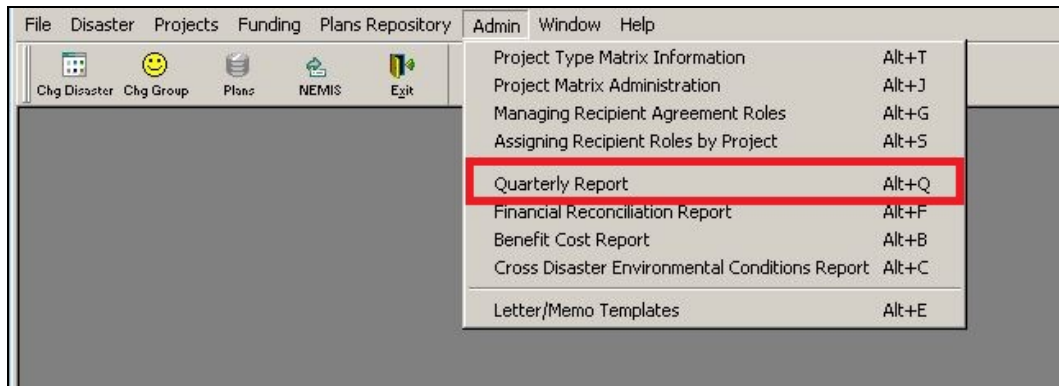

Figure 11-31: Mitigation > Admin > Quarterly Report
1. On the MITIGATION menu, click on Admin > Quarterly Report (Figure 11-31).